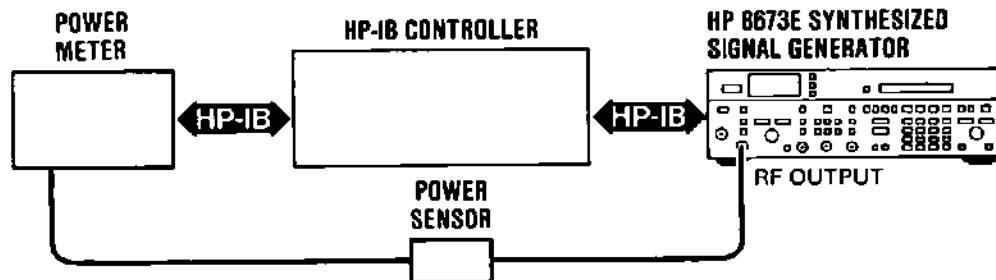

Figure 8-38. Final Output Power Check Test Setup
22. Connect equipment as shown in Figure 8-38.